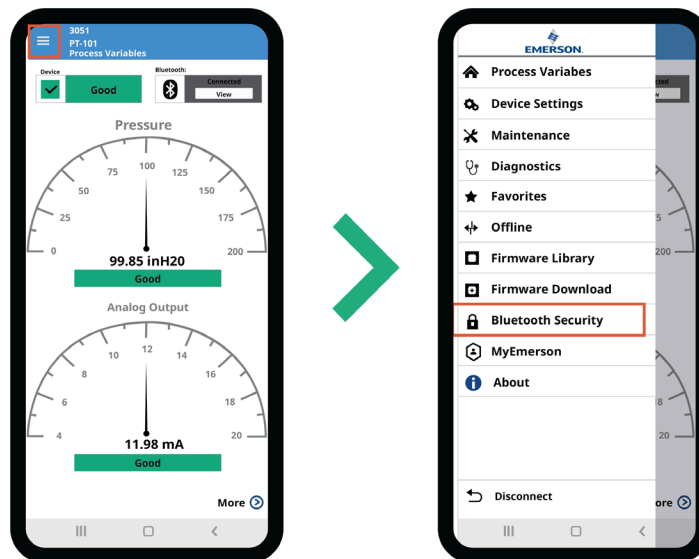

Figure 4. Bluetooth Security menu location on AMS Device Configurator for Android
- b. Select the menu icon in the top left corner to expose the Bluetooth Security Menu option (Figure 4)